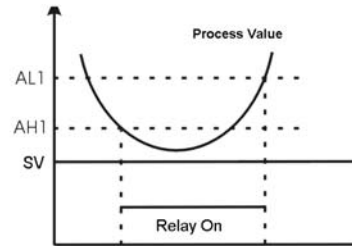

Figure 5
- ③ AH1 < AL1 is for absolute low alarm. See fig. 5.